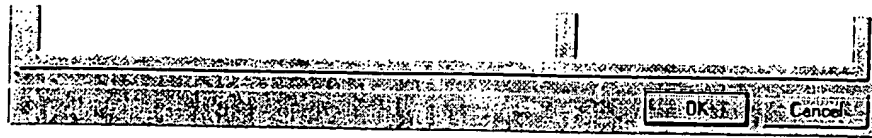

Figure 1. The New dialog box
2. Click **New** on the **File** menu. The **New** dialog box appears. Type a name for your platform in the **Platform name** text box. For this tutorial, type **MyPlatform** (see figure 1).